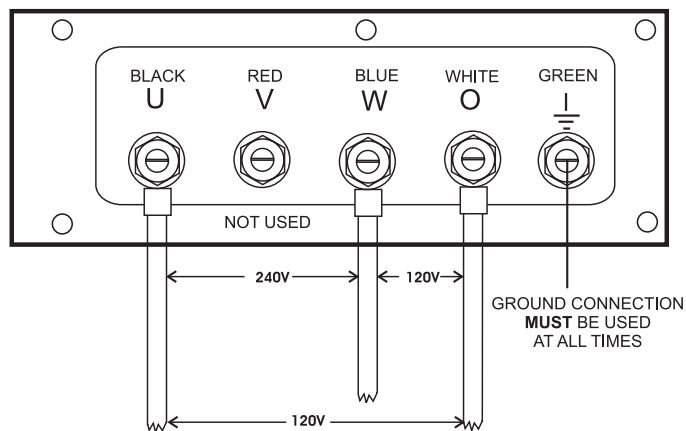

Figure 30. Output Terminal Lugs 1Ø-240V/120V Connections
2. Connect the load wires to the **Output Terminal Lugs** as shown in Figure 30.